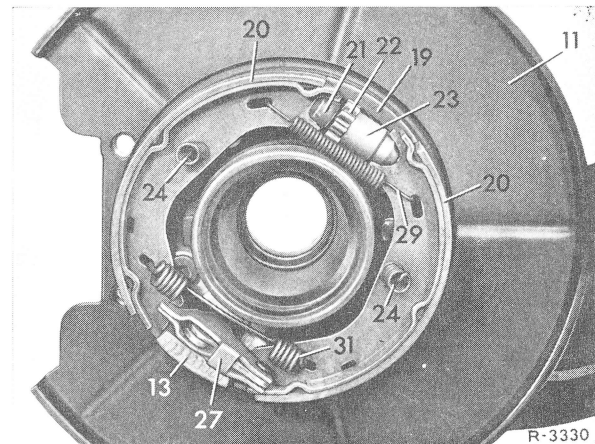
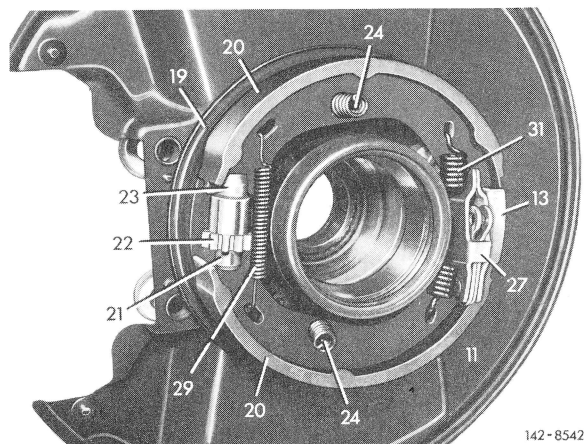

Fig. 7
Fig. 8
4 Disconnect restoring spring (31) by means of removing and installing tool (41) (Fig. 7 to 9).
13 Insert adjusting device (21 to 23) into both brake shoes in such a manner that adjusting wheel (22) on diagonal swing axle points forward (Fig. 7) and on diagonal swing axle with startin torque compensation downwards (Fig. 8 and 10).